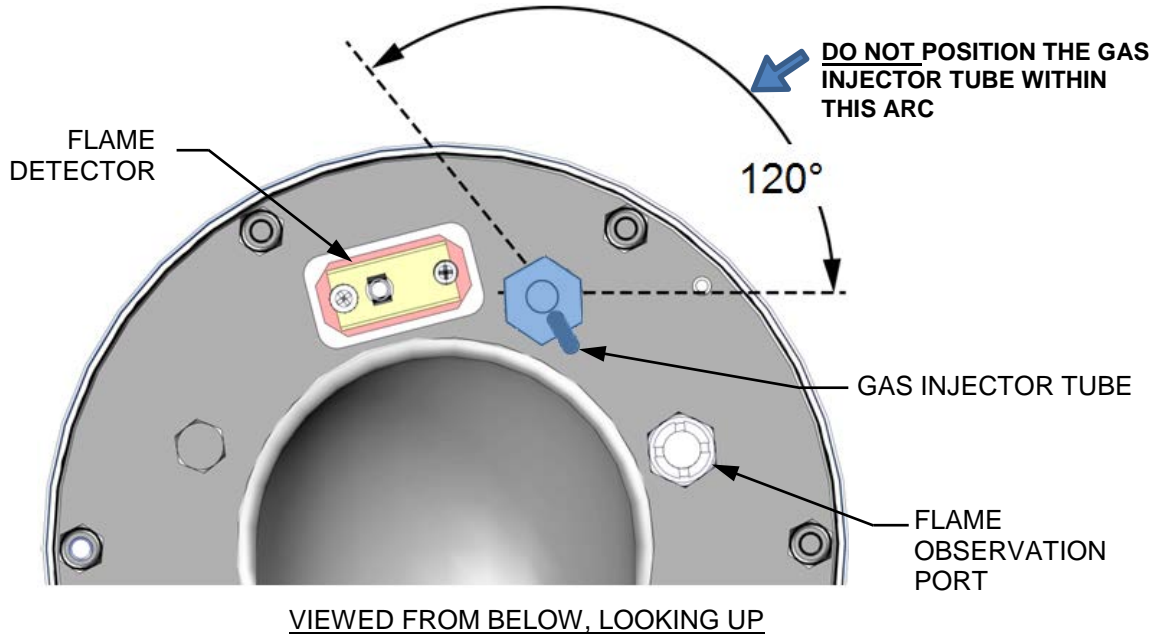

Figure 6-2. Igniter-Injector & Flame Detector Mounting Details
8. Install the igniter-injector on the intake manifold flange. Use the number of clocking washers required to rotate the Igniter-Injector so that the injector tube is ***outside*** the approximately 120° arc shown in Figure 6-2.
5. Disconnect the lead wire from the flame detector installed on the intake manifold flange (Figure 6-2).